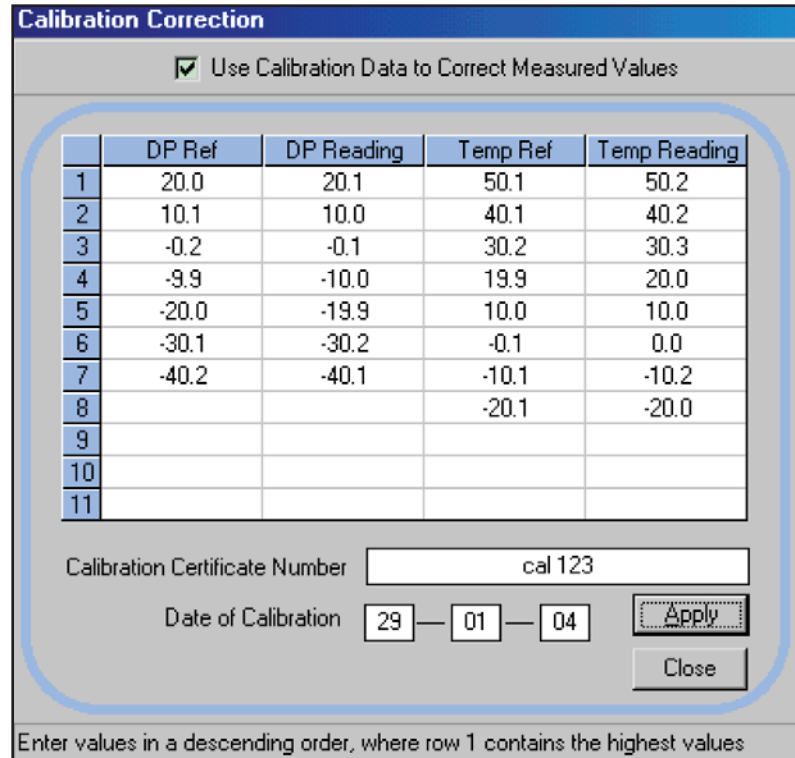

Figure 26 Calibration Correction Window
*Figure 26* shows the **Calibration Correction** window. Four sets of data may be entered: